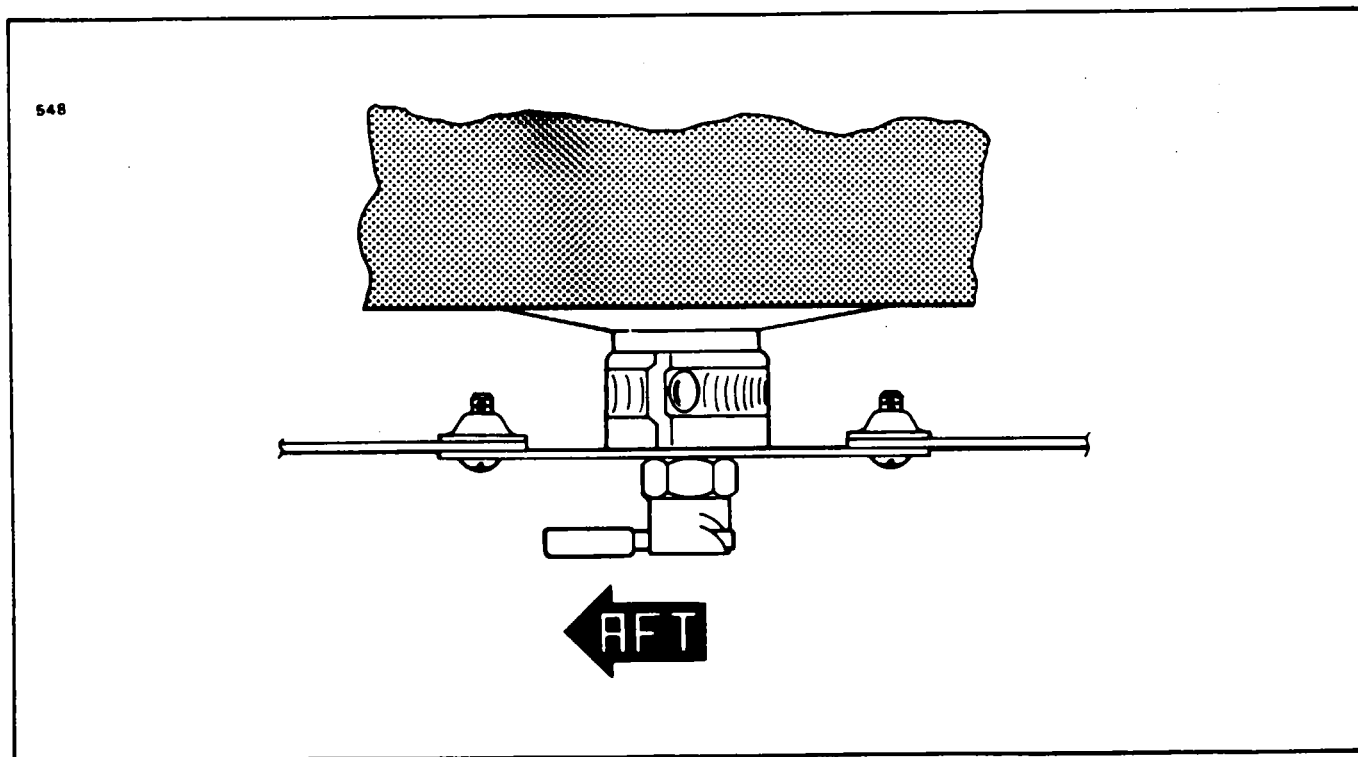

Figure 28-5. Fuel Valve Drain Plate
8. Connect the fuel drain plate by inserting the threaded end of a bolt or rod (not under three inches long) up through the plate and nipple fitting of the fuel cell. (Refer to Figure 28-5.) Reach through the fuel cell opening and install a 2 or 2-1/2 inch diameter washer on the bolt or rod and secure with a nut. Pull the nipple down through the opening in the wing panel enough to clamp the nipple fitting to the plate.